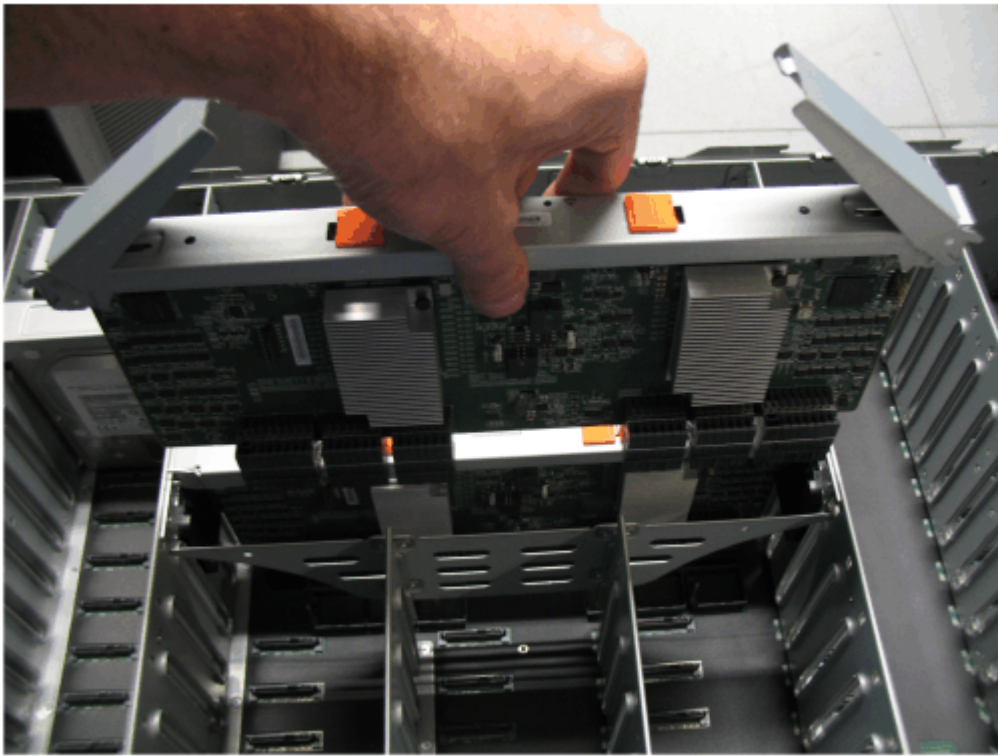

Figure 141. Remove the secondary expander module
4. Lift the secondary expander module carefully out of the enclosure, as shown in Figure 141 on page 185.